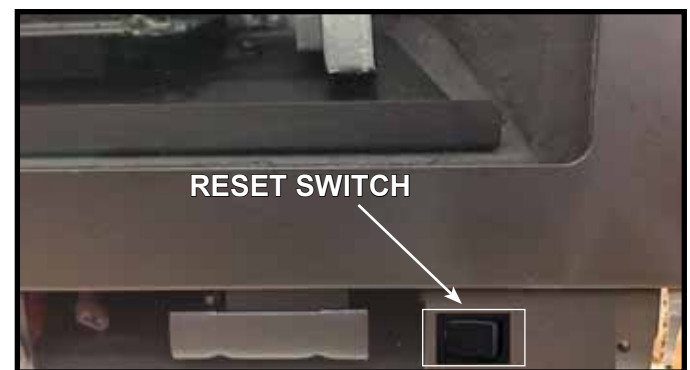

Figure 3.7 Reset Switch Location
The appliance has a reset switch located on the lower right hand side of the appliance behind the decorative barrier front. See Figure 3.7.
- Locate reset switch inside the appliance. See Figure 3.7. Hold reset switch down for one second and release. A “beep” will signal module is reset. ←